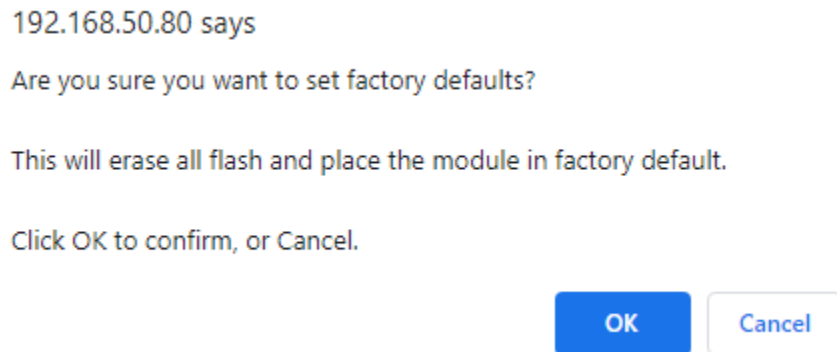

Figure 9-2: The pop up prompting you to confirm defaulting the VoIP interface settings.
2. Click the “Set Defaults” button. A pop up will appear asking if you want to reset to default settings as shown in Figure 9-2. Click the “OK” button to continue.